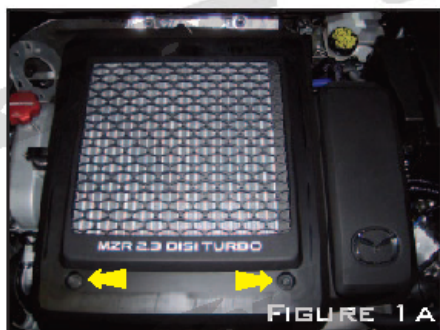

FIGURE 1 A
A. REMOVE THE TWO 10MM HEX BOLTS HOLDING THE INTERCOOLER COVER TO THE INTAKE MANIFOLD AS SHOWN IN FIGURE 1 A. SLIDE THE INTERCOOLER COVER OFF THE BACK OF THE INTERCOOLER AND OUT OF THE ENGINE COMPARTMENT.